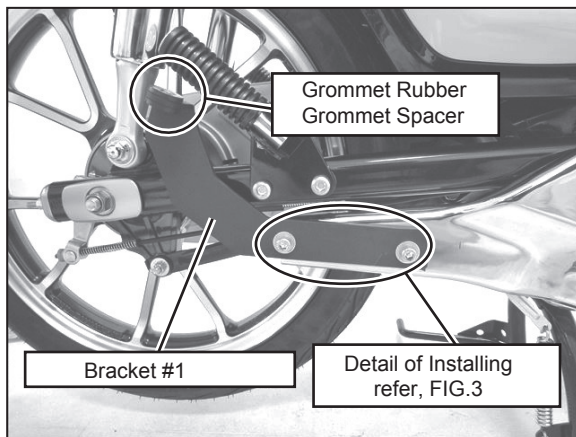

FIG. 2
- 3) Mount Grommet Rubber and Grommet Spacer on Silencer Bracket#1 (See Fig. 2). Using Cap Bolt M8x20 (SUS), Washer M8x20 and Stock nuts mount Silencer Bracket on the Vehicle silencer mounting position (See Fig. 2, 3).